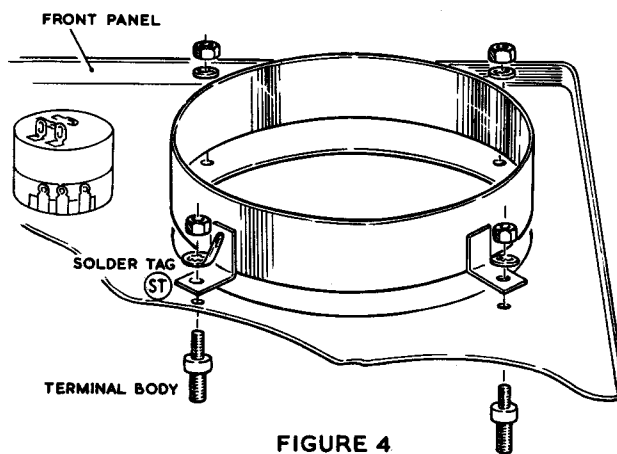

FIGURE 4
- (✓) Mount the tube support ring on the front panel as shown in Figure 4. Fit a 4BA solder tag at ST and secure using four terminal bodies, three 4BA lock-washers and four 4BA nuts.